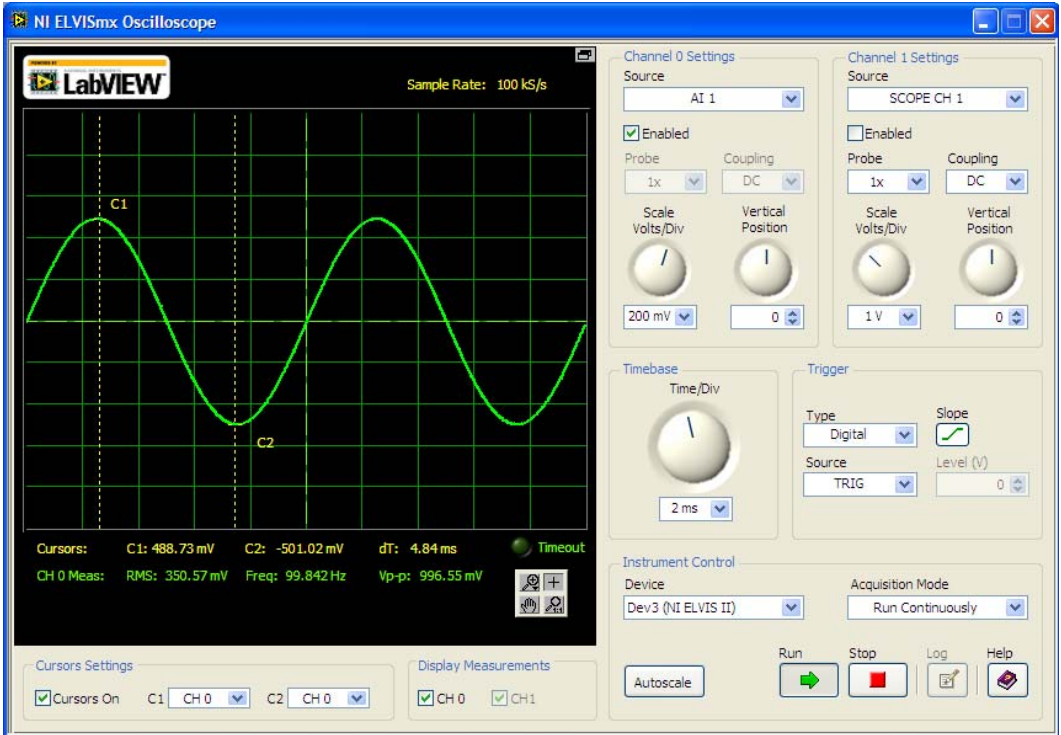

Fig. 15. NI Elvis Oscilloscope showing the input waveform on Channel 0.
10. This input signal originates from FUNC\_OUT. The corresponding SYNC signal is TRIG. Hence under in TRIGGER section, select TRIG option. The output should now appear as shown in figure 15. This is the input signal for our RC circuit.